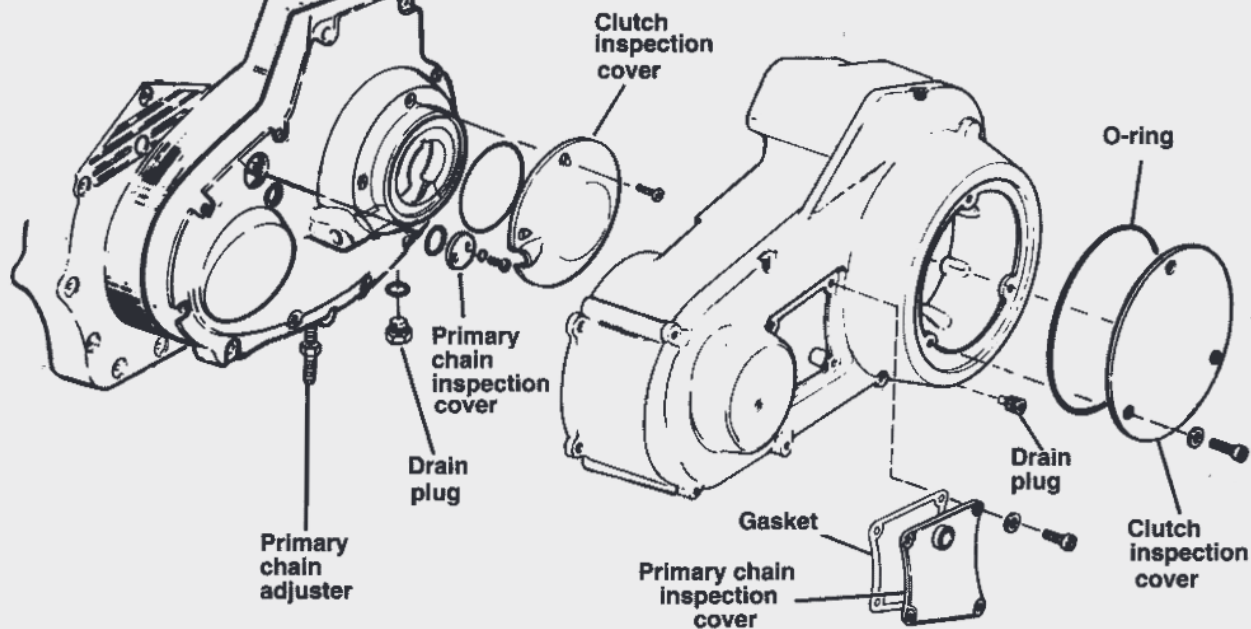

Figure 37. Primary Chaincase
2. See Figure 37. Remove screws and washers that secure clutch inspection cover.
See Figure 37. The drain plug is located under the clutch, on the underside of the chaincase. The filler access is the clutch inspection cover. To determine correct lubricant level in the transmission and chaincase compartments, proceed as follows: